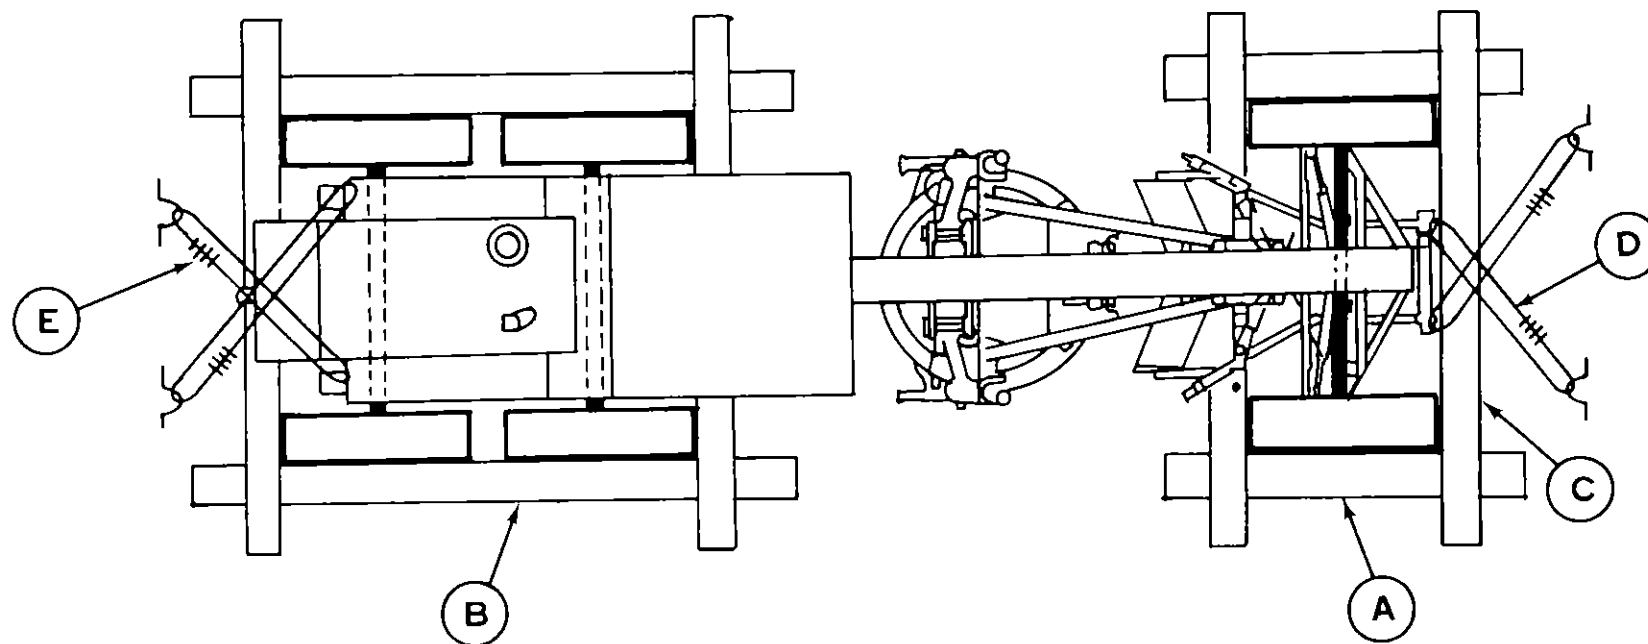

Figure 6-2. Typical blocking and tiedown details of a model 130G grader in a general cargo vessels.
(1) Table 6-1 is the approximate bill of materials for blocking and tiedown of the model 130G grader in the hold of a general cargo vessel. Required amounts will vary as to type of vessel configuration and location aboard the vessel.
(2) Figure 6-2 shows typical blocking and tiedown details of the model 130G grader in the hold of a general cargo vessel.
(3) Table 6-2 provides data concerning the application of materials to restrain the vehicle.
Table 6-1. Bill of Materials for Blocking and Tiedown of the Model 130G Grader in Hold of General Cargo Vessel (Fig 6-2)
Table 6-2. Application of Materials for Blocking and Tiedown of the Model 130G Grader in Hold of General Cargo Vessel (Fig 6-2).